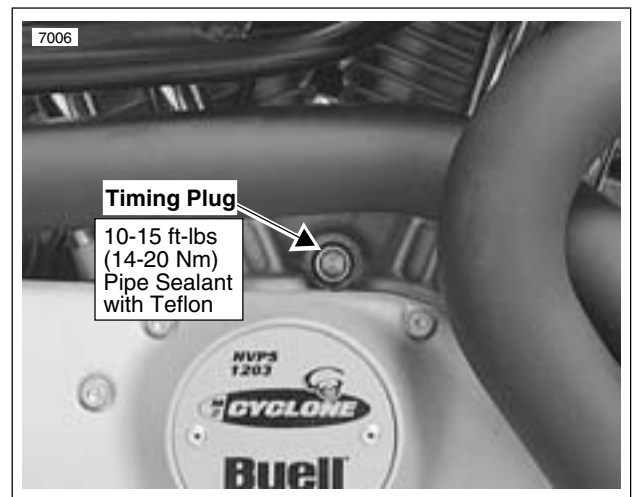

Figure 1-46. Timing Plug
2. Drill off heads of pop rivets (1) using a 0.375-inch (9.525 mm) drill bit. Use a punch to tap rivet shafts inboard through holes in outer timer cover. Remove outer timer cover (2).
3. Remove two screws (3) to free inner timer cover (4). If necessary, tap remaining rivet shafts through holes in inner timer cover.
5. Depress external latch on cam position sensor connector (11) [14]. Use a rocking motion to separate pin and socket halves.
6. See **Figure 1-46**. Remove the timing plug from the timing inspection hole centered below the cylinders on the right side of the crankcase.
1. See Figure 1-46. Thread TIMING MARK VIEW PLUG (Part No. HD 96295-65D) into timing inspection hole. Be sure view plug does not touch flywheel.
7. Attach outer timer cover (2) to inner cover (4) using **new** rivets (1).
8. See Figure 1-46. Remove TIMING MARK VIEW PLUG from timing inspection hole. Apply LOCTITE PIPE SEALANT WITH TEFLON to hex socket timing plug. Tighten to 10-15 ft-lbs (14-20 Nm).